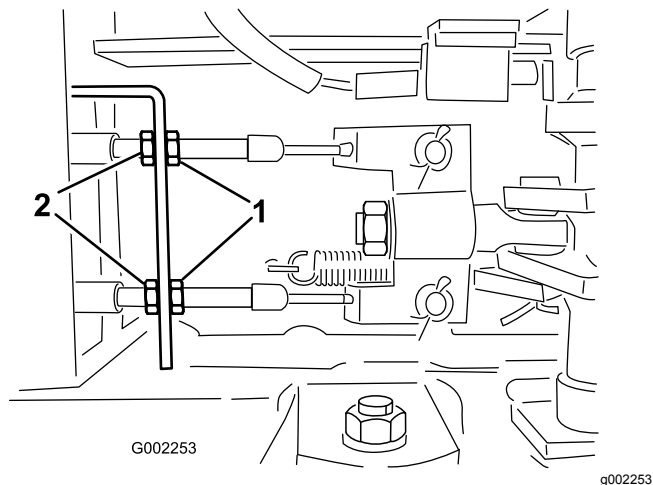

Figure 56
5. Loosen the front nuts on the brake cables under the front end of the sprayer (Figure 56).
6. Tighten the rear nuts equally until the brake pedal moves between 1/2 to 1 inch (1 to 2 cm) before you feel resistance (Figure 56).